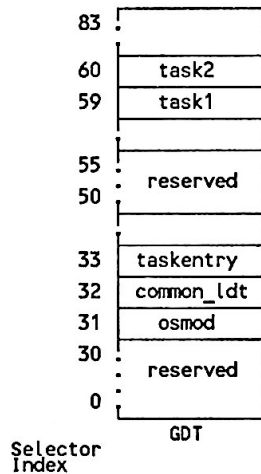

Figure 3-9 GDT Entries for Example 2
2. This example defines a GDT and an IDT. It places the GDT at level 0. It contains all the segments in the `osmod` module, the task gate `taskentry`, and the task state segment descriptors `task1` and `task2`, along with the descriptor for the LDT. The GDT has 80 additional entries at the end of the table. Entries from 0 through 30 and from 50 through 55 are reserved. The GDT limit and base are stored at the location indicated by the public symbol `gdtloc`. The IDT is also at level 0 and contains the interrupt gate `errhndler` installed at slot number 50. Figure 3-9 represents the resulting GDT.